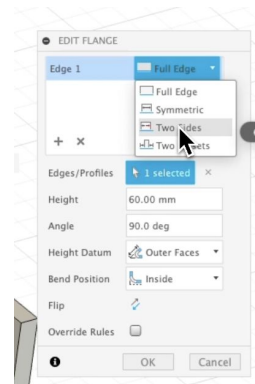

Figure 1.11
- A new dialog box will appear, where you can open the **Full Edge** dropdown to view additional options (see Figure 1.11).